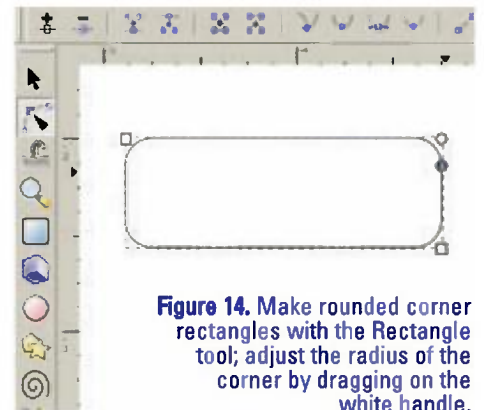

Figure 14. Make rounded corner rectangles with the Rectangle tool; adjust the radius of the corner by dragging on the white handle.
3. Drag the white handle on the right side downward to increase the radius of the corner (**Figure 14**).